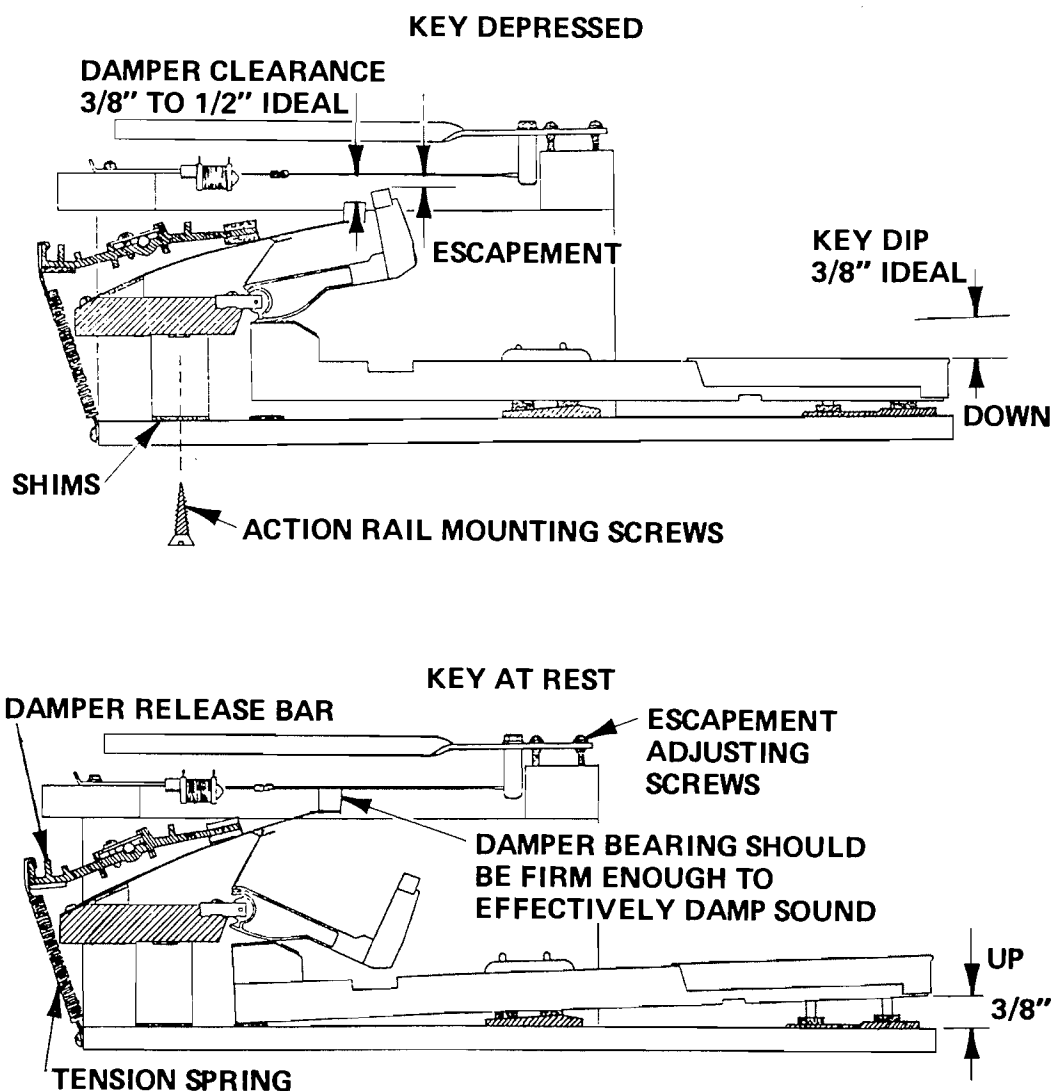

Figure 10-1. RHODES Early Design Single Key Views
1. Key Dip. Key Dip and Hammer travel are controlled by the height of the Action Rail. Key Dip is the term used to describe the downward limit of travel of the Key when depressed.  $3/8''$  (9.525mm) is ideal. This is controlled by means of shims (Figure 10-1) placed between the Action Rail and the Key Frame. To adjust, remove the entire Action from the box. Along the back of the Key Frame under the Action Rail will be five wood screws. Remove these, then either remove shims or add shims depending upon whether you wish to reduce or increase the Key Dip.